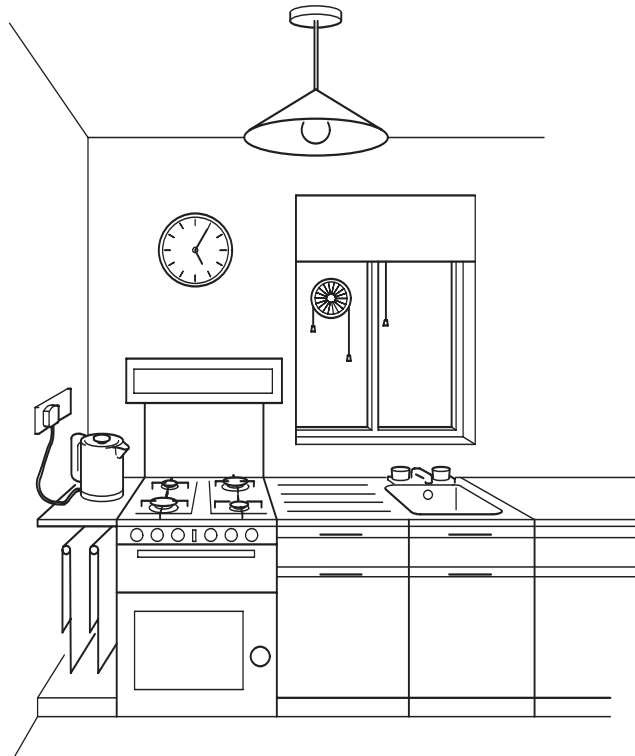

Fig. 3
- 5 (a) Name **three** different types of energy source used in the kitchen shown in Fig. 3. In each case state which product uses the energy source. [3×2]